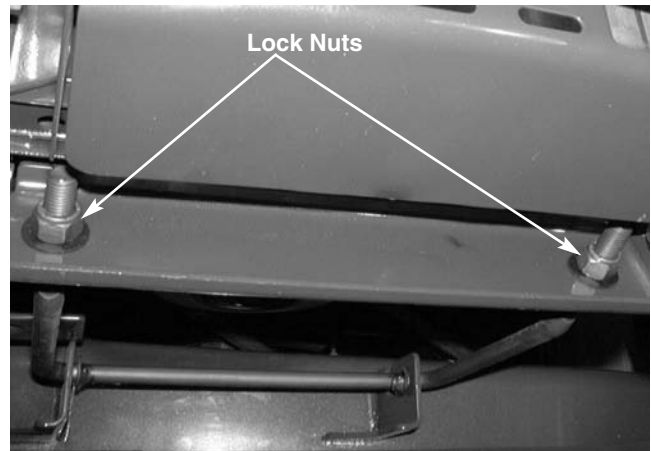

FIGURE 4.
- 6). Locate both lock hex nuts on the front side of the deck stabilizer bracket. See figure 4.